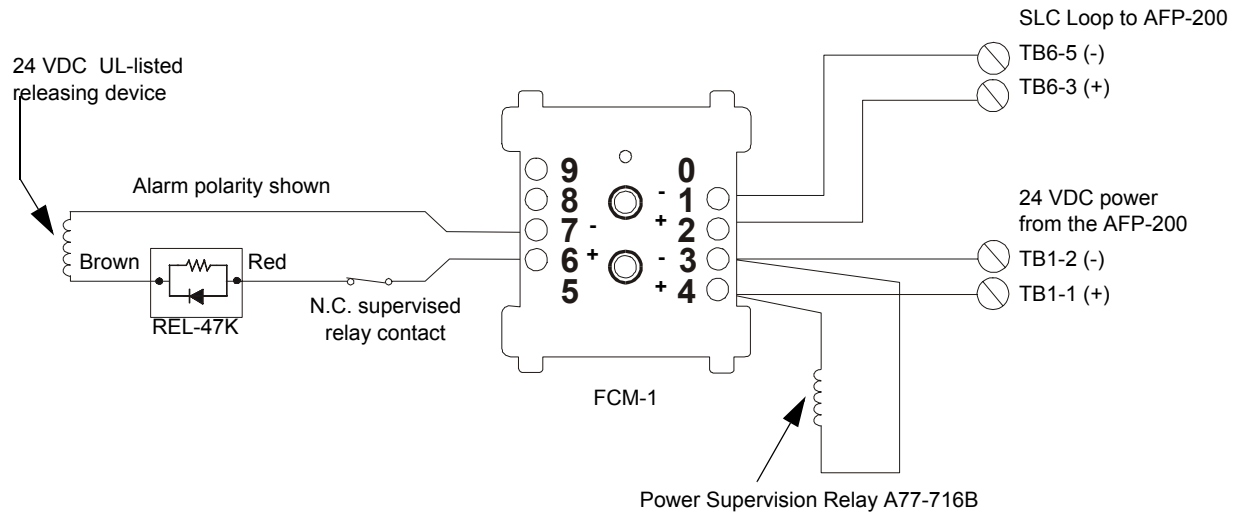

Figure 145 Typical Connection of Releasing Device to Control Module
- Connecting a releasing device to a control panel through a control module (Figure 145 on page 154)
Figure 145 shows typical connections of releasing device to the control panel to a via a control or relay module.